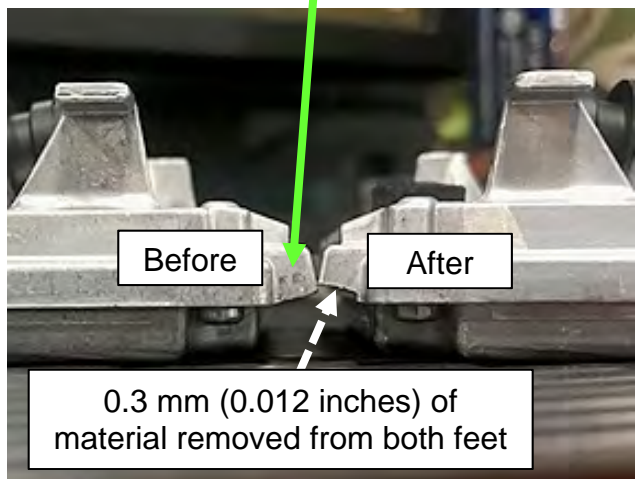

Figure 3
**NOTE:** Only one foot is shown in Figure 3.